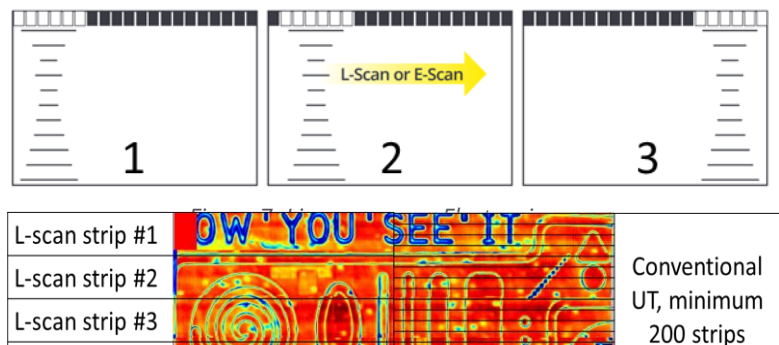

Figure 6: L-scan needs to encode less strips to cover the same area
shifts one element and pulses another adjacent beam (2). This sequence is repeated over the full length of the array (3). One of the main advantage for the L-scan is productivity as it generates a high resolution C-scan with only few strips. The example on Figure 6 shows that only four strips are required for the L-scan while it requires more 200 strips of data for a conventional UT scan. Moreover, the L-scan will record the same important information such as: A-scans, B-scans, C-scans, for time-of-flight and amplitude.